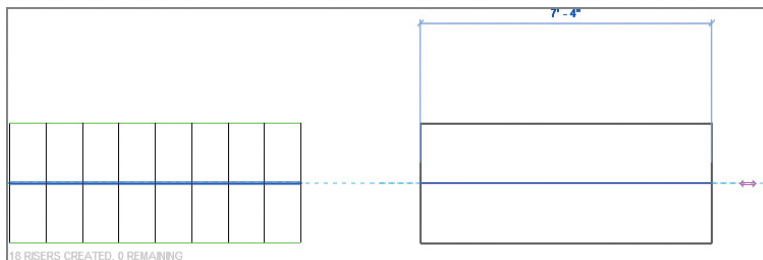

FIGURE 4.11 A second run of stairs and landing
2. Start the second run of stairs, as shown in Figure 4.11. When you finish the second run of stairs, Revit Architecture creates the landing between the two runs automatically.